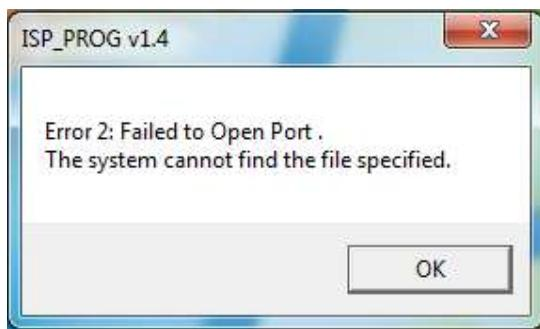

Figure 3.17: New window after opening ISP_PROGv1.4
- d. After opening ISP_PROGv1.4 a new window will open as shown in Figure 3.17. Then Press OK.